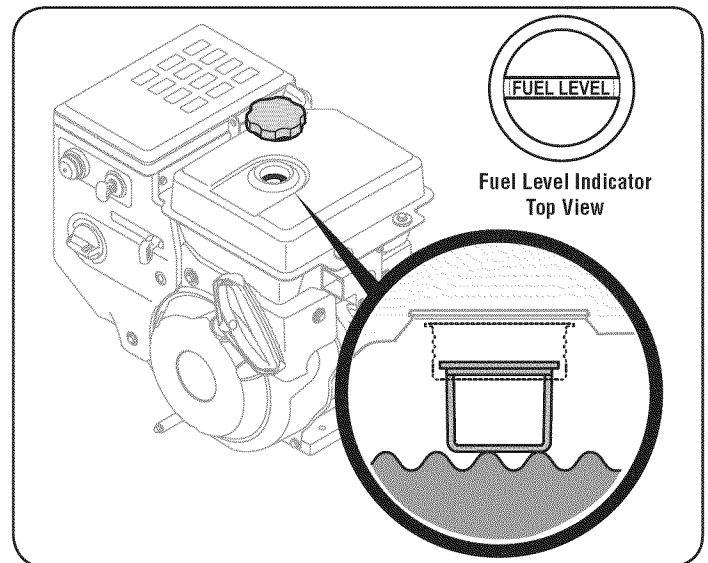

Figure 9
2. A fuel level indicator is located in the fuel tank. Fill tank until fuel reaches the fuel level indicator, Figure 9. Be careful not to overfill.